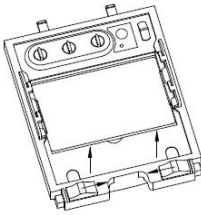
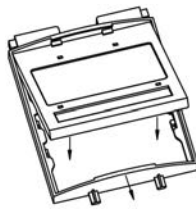

Figure 1
Figure 2
Remove ADF holder assembly per Figure 1. Remove front cover lens from helmet assembly. Carefully remove gasket from cover lens. Install new cover lens into gasket and assemble to helmet shell. Make sure to assemble cover lens and gasket into helmet shell the same way as it was removed.
**Change the Shade Cartridge:** Remove ADF holder assembly from helmet shell. See figure 1 for removal. Flex top end of the ADF holder to allow for ADF cartridge to be removed from frame. Install new ADF cartridge into frame per figure 2 below. Make sure that the ADF cartridge is inserted in ADF holder correctly as shown. Install ADF holder assembly into helmet shell.